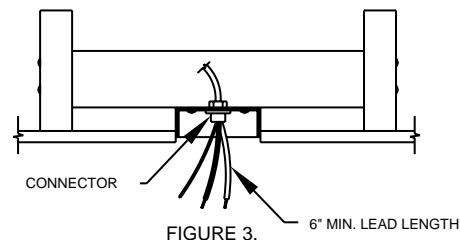

FIGURE 3.
- B. BRING ELECTRICAL CABLE INTO THE OUTLET BOX AND ATTACH WITH AN APPROVED CONNECTOR. MAKE CERTAIN THAT WIRING MEETS ALL NATIONAL AND LOCAL ELECTRICAL CODES. WIRE LEADS SHOULD EXTEND AT LEAST 6" BEYOND OUTLET BOX FOR EASE IN MAKING CONNECTIONS. SEE FIGURE 3.